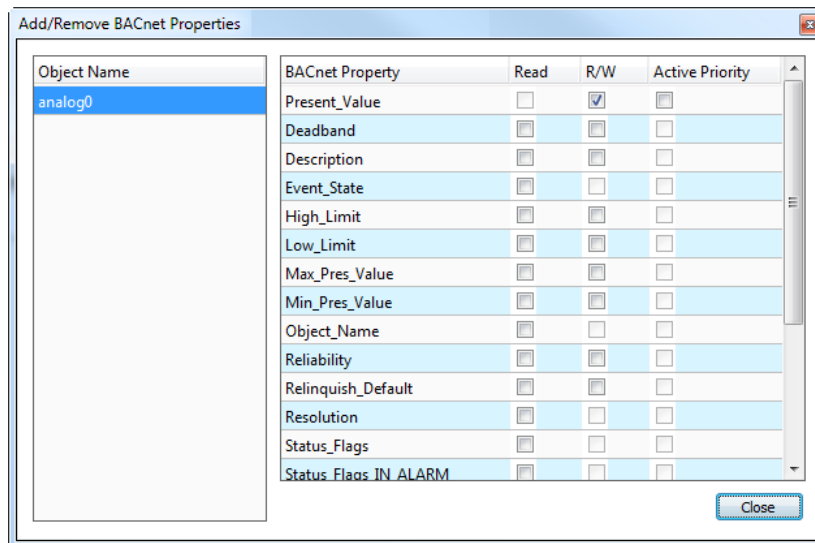

Figure 110: Dialog for adding/removing BACnet properties.
2. Right-click on the data point and select **Add/Remove BACnet properties ...** from the context menu. The dialog appears as shown in Figure 110.